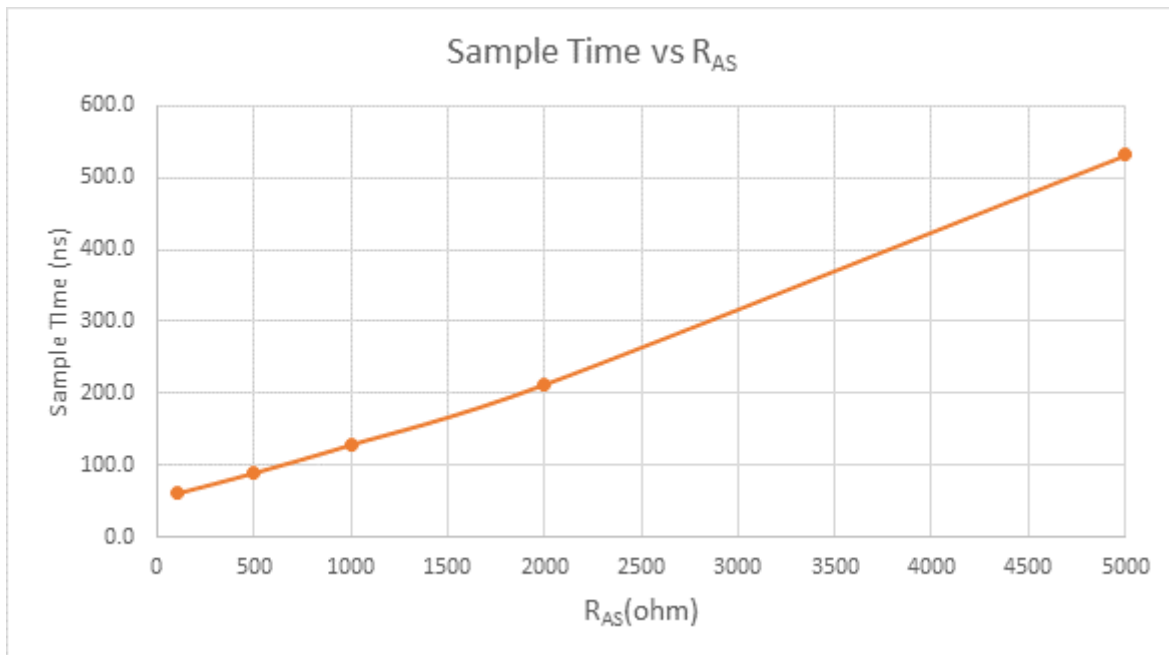

Figure 36. Sample time VS. R_{AS}
⁴ See Figure 36, "Sample time VS. RAS".
- ⁴ See Figure 36, "Sample time VS. R_{AS}".